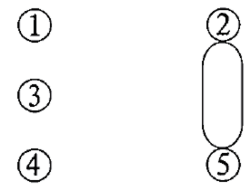

Figure 12.1: Tap setting example 1
- 10kV, the tapping links should be connected to 2-5, as shown in Figure 12.1.